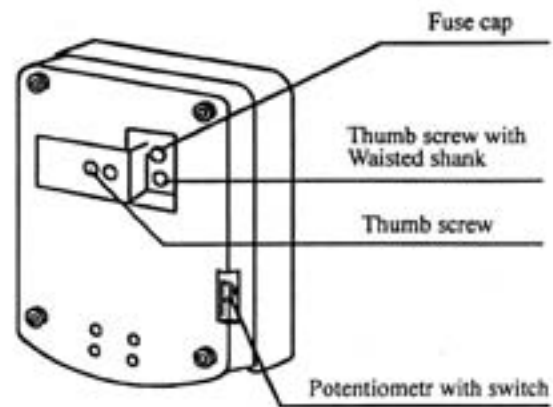

Fig 4
4.4.7 Make the filament image center coincide with the optical axis by moving the thumb screw after loosening it (Fig.4), then screw in this screw.
4.5 Replacement of the fuse (Fig.4)